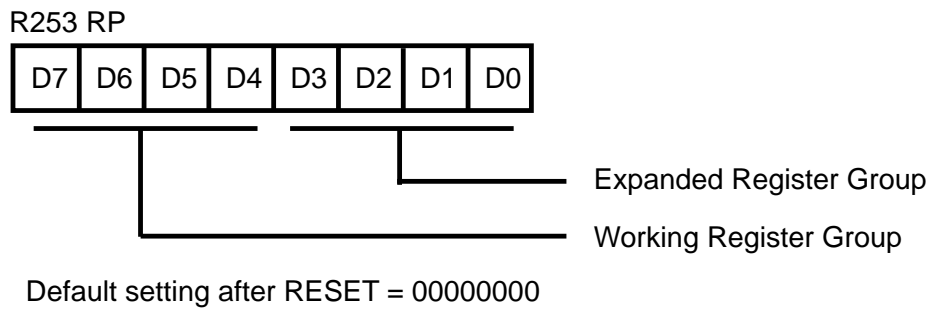

Figure 24. Register Pointer Register
**Register File.** The register file consists of three I/O port registers, 236/125 general-purpose registers, 15 control and status registers, and three system configuration registers in the expanded register group. The instructions can access registers directly or indirectly through an 8-bit address field. This allows a short 4-bit register address using the Register Pointer (Figure 24). In the 4-bit mode, the register file is divided into 16 working register groups, each occupying 16 continuous locations. The Register Pointer addresses the starting location of the active working-register group.